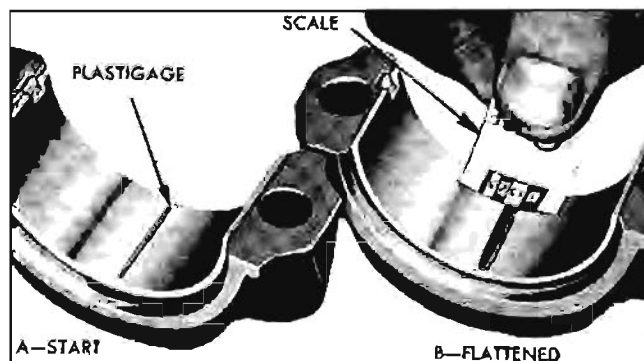

Fig. 6-110 Plastigage Position in Cap for Checking Bearing Clearance
2. Remove bearing cap. Using Plastigage scale measure width of flattened piece of plastic (Fig. 6-110). If reading is not over $2\frac{1}{4}$, standard size connecting rod bearing should be used; if over $2\frac{1}{4}$, use .001" undersize bearing and recheck. Connecting rod bearing inserts .002" undersize are available for cases where use of .001" undersize bearing results in excessive clearance.
5. Remove bearing cap. Using plastigage scale, measure width of flattened piece of plastic (Fig. 6-110). If bearing clearance exceeds .003", it is advisable to install a new bearing. Desired new bearing clearance .0005" to .0025".